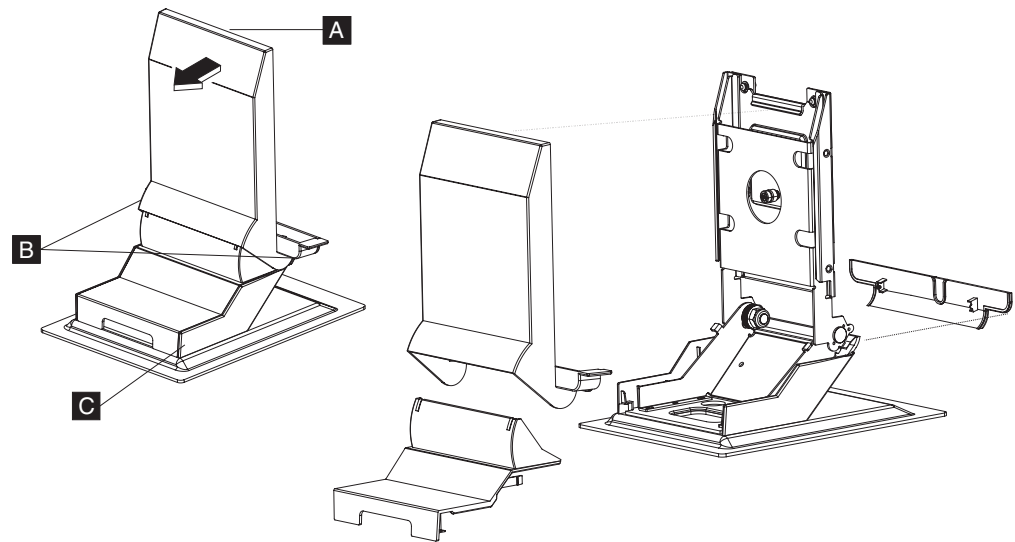

Figure 39. Removing the stand cover set
2. Remove the upper cover (**A**) by pulling on the two finger grips on the bottom at the far left and right sides (**B** in Figure 39) in the direction shown.